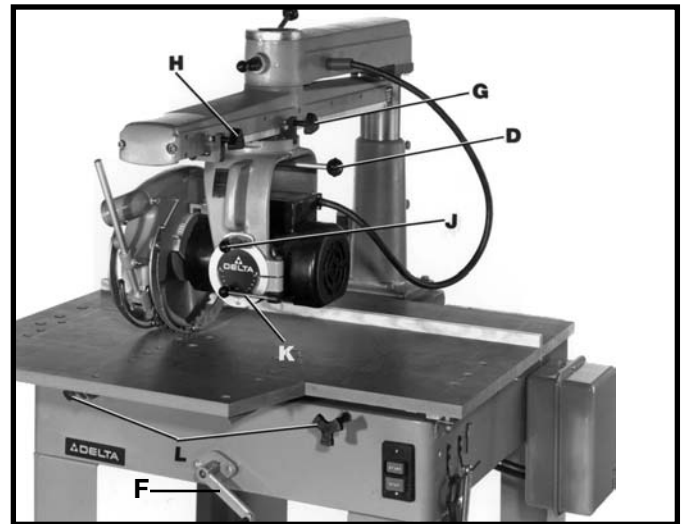
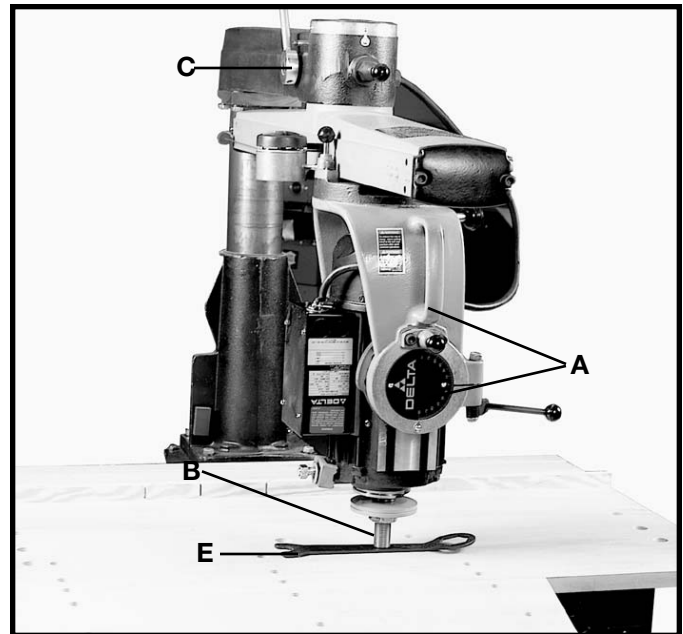
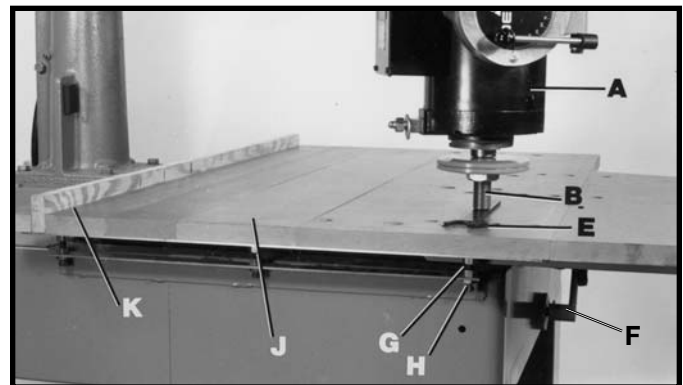

Fig. 5
Fig. 18
Fig. 19
D - YOKE CLAMP HANDLE Fig. 5. The yoke clamp handle must be loose when rotating the yoke to the rip or cross-cut position.
F - ELEVATING CRANK HANDLE Fig. 5. Controls the depth of cut in all operations. Turning the crank handle raises or lowers the over-arm.
G - CUTTINGHEAD CLAMP KNOB Fig. 5. Locks cuttinghead at any position on the track-arm. When ripping the cutting clamp knob must be tight.
H - CROSS-CUT STOP Fig. 5. Prevents unnecessary travel of the cuttinghead on the track-arm. It is especially useful when performing repetitive operations. Clamp the stop to the side of the track-arm at a position which will stop the cuttinghead travel as soon as the blade cuts through the workpiece.
J - BEVEL INDEX KNOB Fig. 5. Locates 0° and 45° and 90° positions of the motor when bevel cutting. When tilting the motor for bevel cutting, the bevel clamp handle (K) must first be loose.
K - BEVEL CLAMP HANDLE Fig. 5. Controls tilt of motor for bevel cutting operations. Locks motor at any desired angle on the bevel scale.
L - TABLE CLAMP KNOBS. Fig 5. Allows the operator to quickly set the desired fence position.
1. Move the motor and cuttinghead assembly (A) to the vertical position shown in Fig. 18. Position saw arbor (B) Fig. 18, so it is approximately in the center of the front table board, as shown. Push track-arm clamp handle (C) Fig. 18, to the rear to secure track-arm and tighten cuttinghead clamp knob (G) Fig. 5.
Using the spanner wrench (E) Fig. 18, as a feeler gage, raise or lower track-arm by turning elevating handle (F) Fig. 19, until saw arbor (B) just touches wrench (E). **DO NOT RAISE OR LOWER TRACK-ARM ANY FURTHER UNTIL LEVELING ADJUSTMENT IS COMPLETED.**
2. Move cuttinghead (A) so that the saw arbor (B) Fig. 19, is at the left front table, as shown. Make sure track-arm clamp lever and cuttinghead lock knob are tight. Using the spanner wrench (E) Fig. 19, as a feeler gage, check to see if an adjustment is necessary. To lower the table, loosen nut (G) and tighten nut (H) Fig. 19. To raise the table, reverse this adjustment. Check table at points (J) and (K) and adjust if necessary. Check table on right side in the same manner.